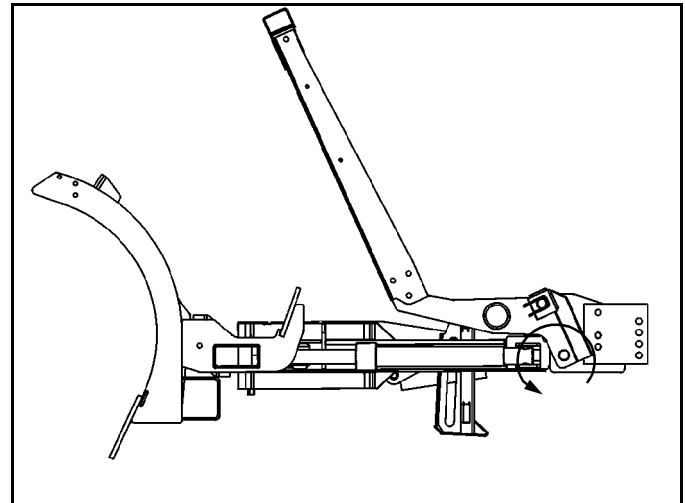

Figure 1-27
9. Rotate jack stand down and raise A-frame by pressing the up button. (See Figure 1-27).